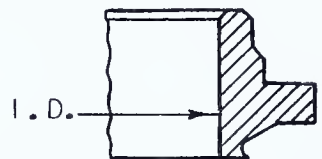

FIG. 219 — Finished Ring
17. Check with the foreman for his approval. The job should appear as shown in Fig. 219.